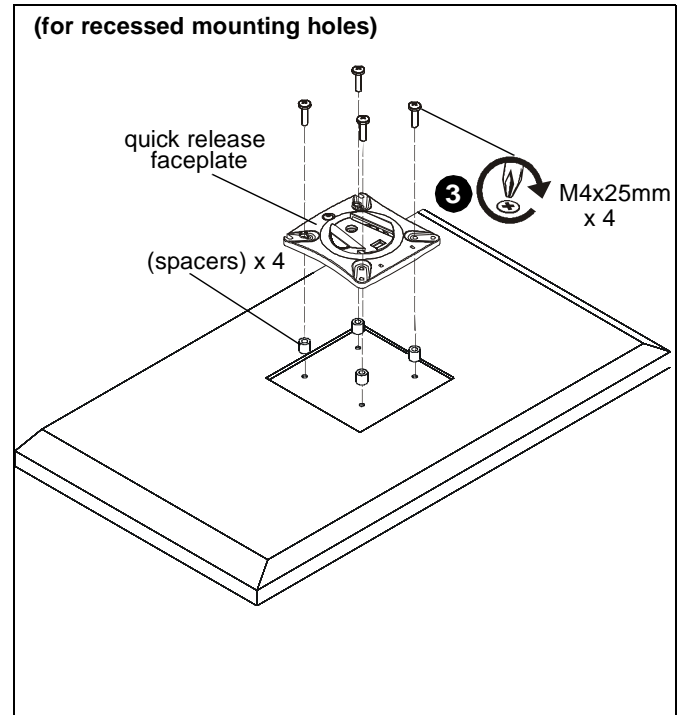

Figure 5
- Place four spacers on top of mounting holes on back of display. (See Figure 5)
- Using Phillips screwdriver, carefully install four M4x25mm screws through corresponding holes on faceplate, spacers and into the mounting holes on the display. (See Figure 5)